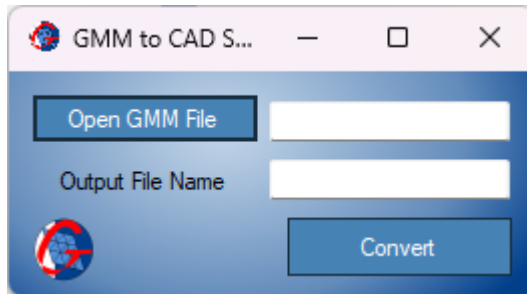

Figure 18: Geo Meshing v6 to CAD script surface dialog window.
- **GM to CAD Script:** Opens a dialog window (shown in Figure 18) for converting *Geo Meshing v6* surfaces to a CAD script surface. The script can be drag/dropped into CAD software and it will create a 3Dface surface.